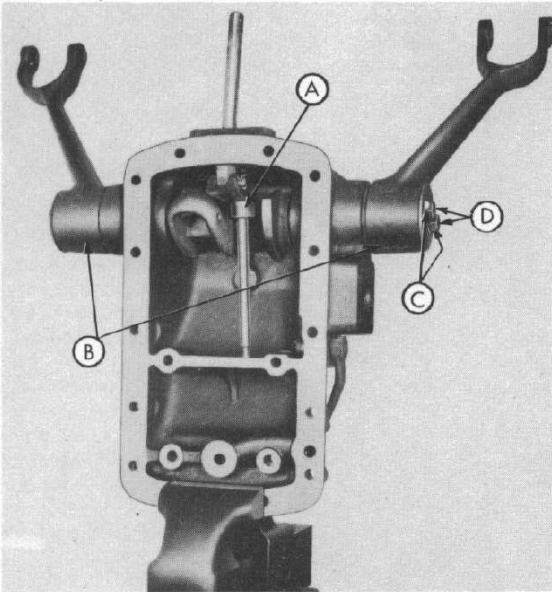

Fig. 5
- j. Remove the plunger and the draft control link. (A-Figure 5).
Step 10—Remove the lift arms (B-Figure 5).
- a. Straighten the tabs on the lockwashers (C-Figure 5) on both lift arms.
- b. Remove the two cap screws (D-Figure 5) from both lift arms and remove the arms.